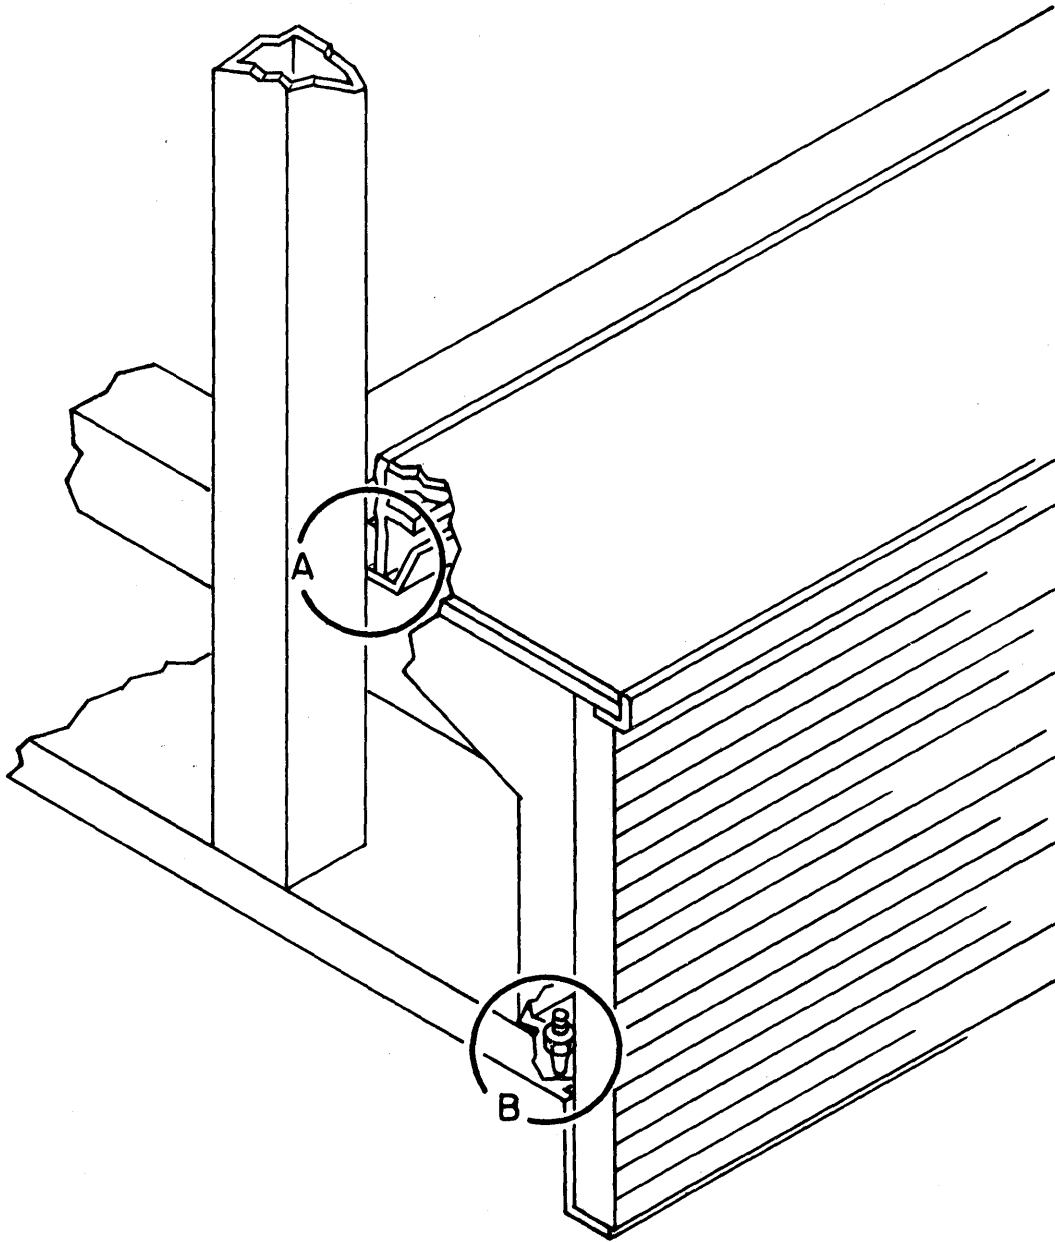

FIGURE 2-1 STEP COVERS - 7631
These covers are part of the Shipping Group. Step covers are installed after the cables are in position and connected. Figure 2-1 shows early model, one-piece step covers. Figure 2-2 shows step covers used on current models.
- B. Install one-piece step covers as illustrated in Figure 2-1: